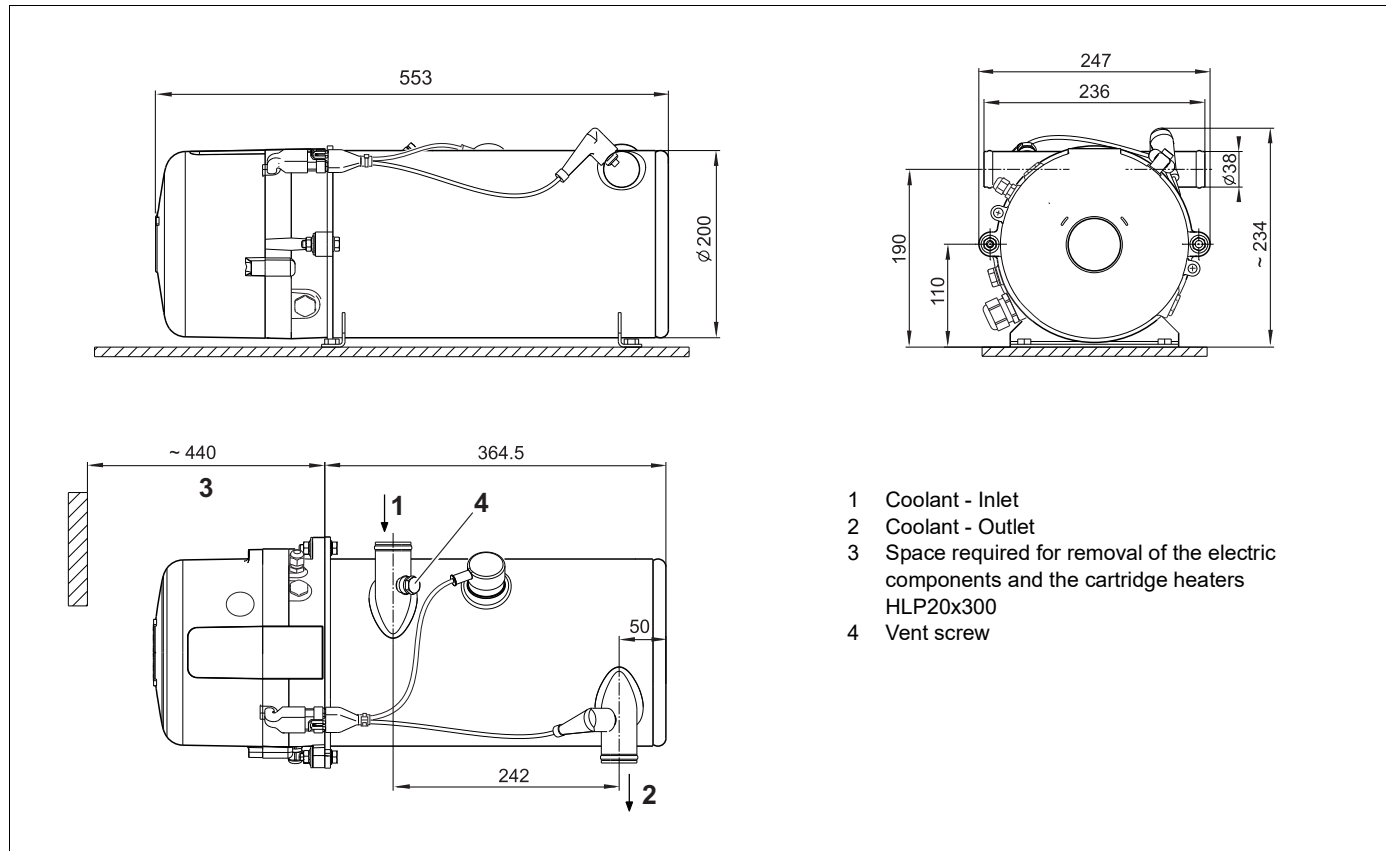

Figure 11: Dimensions of the heating appliance Thermo AC
The dimensions of the heating appliance, the permitted installation locations, and the hole pattern for the fastening can be found in figures 11 and 12.
The heating appliance is connected to the vehicle's cooling system according to figure 11. The volume of coolant fluid present in the circuit must be at least 25 litres. The water in the heating circuit of the heating appliance must contain at least 30 to 60% of a branded antifreeze agent. An up-to-date list of Valeo recommended anti-freeze agents can be found on the Valeo website.
When installing the electric heater the direction of the flow of the cooling water in the circuit is to be considered (see figure 11).
For that the additional venting option via the vent screw item 4, figure 11 is to be used after the system has been filled and the pump has been switched on.